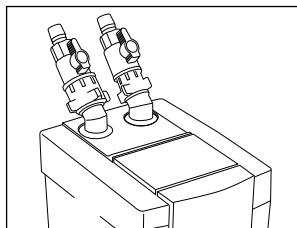

fig 16
- Screw the ring nuts of the taps, without forcibly tightening, onto the slanted rotating connector of the pump unit (fig. 16).